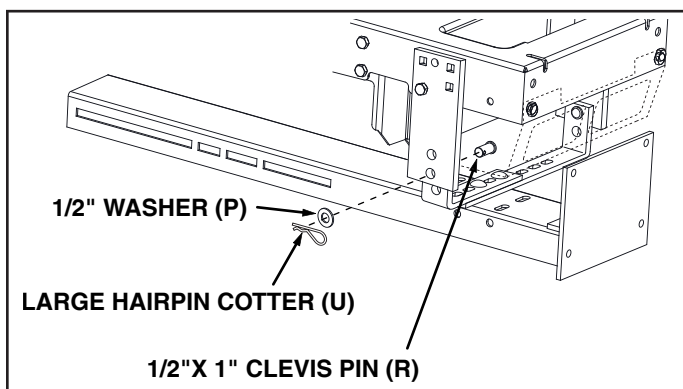

FIGURE 11 - SEARS TRACTOR SHOWN
STEP 11: (SEE FIGURE 11)
- Slide the Thrust Channel under the front of the tractor. Attach the Hanger Brackets to the Frame Brackets using two 1/2" x 1" clevis pins (R), 1/2" washers (P) and large hairpin cotters (U).